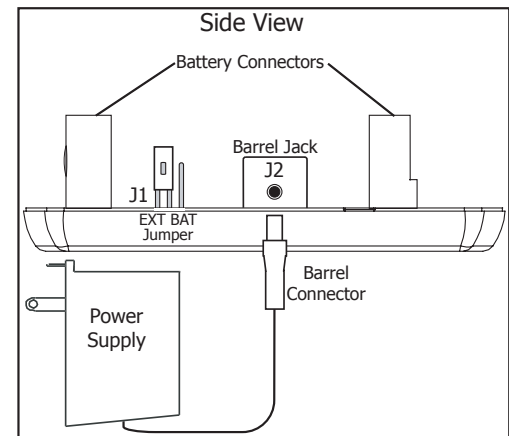

Figure 4: 1116 Side View
4. Plug the barrel connector into the J2 barrel jack at the side of the 1116 cover. See Figure 4.
5. Plug the Model 378 barrel connector into the J2 barrel jack at the side of the 1116 cover. See Figure 4.
8. Plug the barrel connector into the J2 barrel jack at the side of the 1116 cover. See Figure 4.